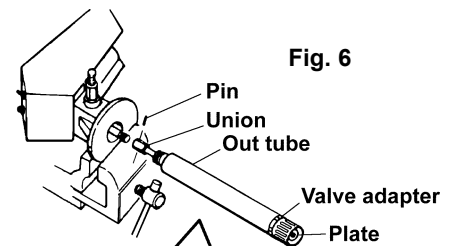

Fig. 6
- 4) Fix the pump assembly on vise. (Fig.6)
- 5) Set a spanner on the valve adapter and unscrew it. The out tube can be pulled out from the pump. Then continue to pull out it until touching to the plate, the union that connects to the motor. Pull out the pin and unscrew the union, and the lower pump can be separated from the motor. (Fig. 6)
- 6) Pull out the out tube. If only the valve adapter pulled out, unscrew the nut and remove the plate. Then pull out the out tube and screw the suction tube with pipe wrench (set on notched part of the suction tube). Pull out the pin and unscrew the union, and the lower pump can be separated from the motor. (Fig. 6, 7)
- 15) Insert the suction tube from opposite side of valve adapter. Pull out the union from the suction tube and screw it to the connecting rod of the motor side. Adjust the position of pin-hole of both the suction and the union, and insert the pin. (Fig. 6)